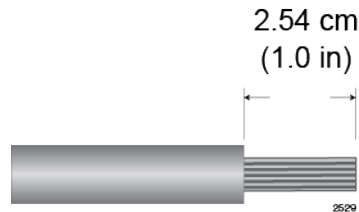

Figure 130. Stripping the solid or Stranded Grounding Wire
1. Prepare an adequate length of solid or stranded 10 AWG grounding wire by stripping it as shown in Figure 130.